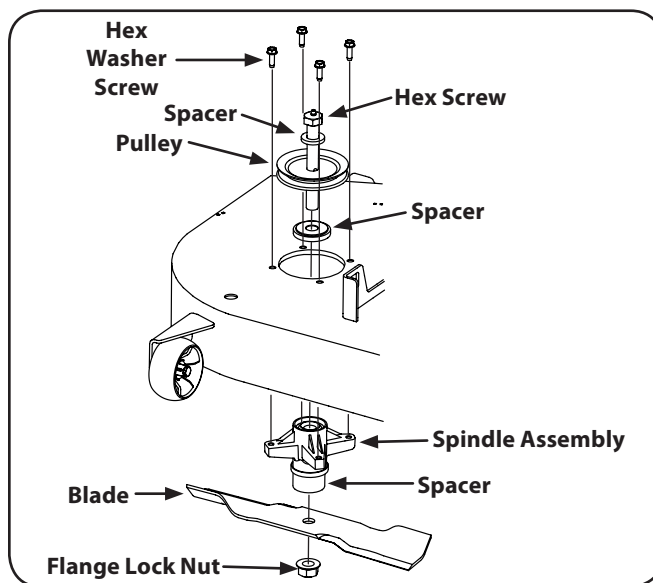

Figure 7-14
3. Use a $\frac{3}{4}$ " wrench to hold the hex nut on top of the spindle assembly when loosening the hex nut securing the blade. A block of wood may be placed between the deck housing and the cutting edge of the blade to help in breaking loose the hex nut securing the blade. See Fig. 7-14.
4. Using a wrench or socket ratchet remove four hex washer screws. Remove the spindle assembly. See Fig. 7-14.